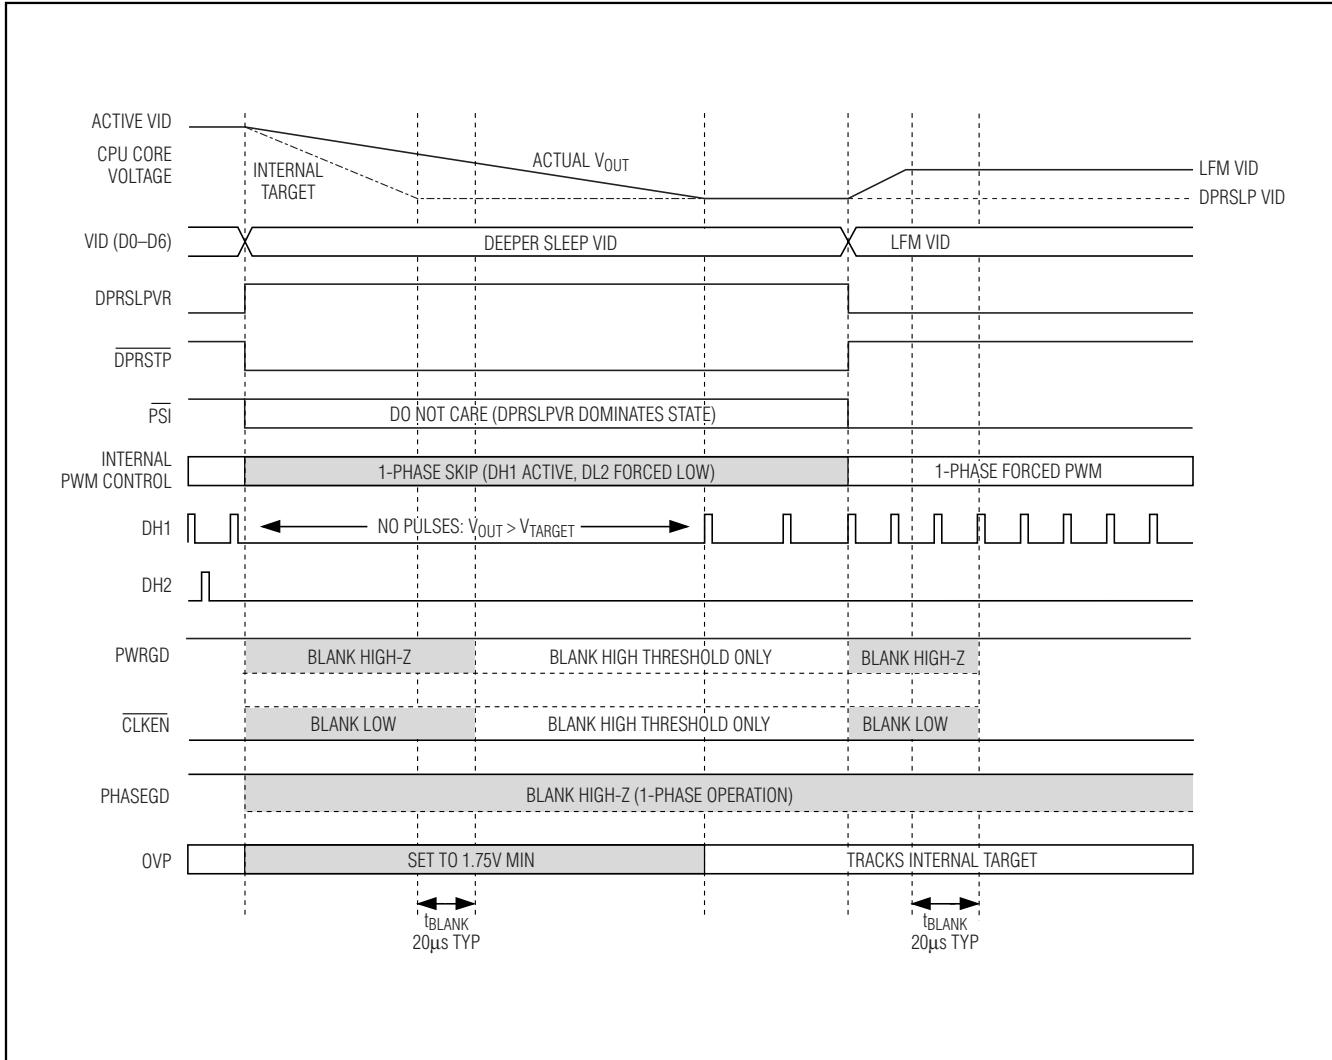

Figure 6. Slow C4 Transition
- **Slow C4 Deeper Sleep Exit:** When exiting deeper sleep (DPRSLPVR high, DPRSTP pulled high) while the output voltage is regulating to the deeper sleep voltage, the MAX8770/MAX8771/MAX8772 remain in 1-phase skip mode and ramp the output voltage to the LFM DAC code provided by the processor at 1/4 the slew-rate set by RTIME. The controller blanks PWRGD, PHASEGD, and CLKEN (forced high impedance) until 20 μ s after the transition is completed. See Figure 6.